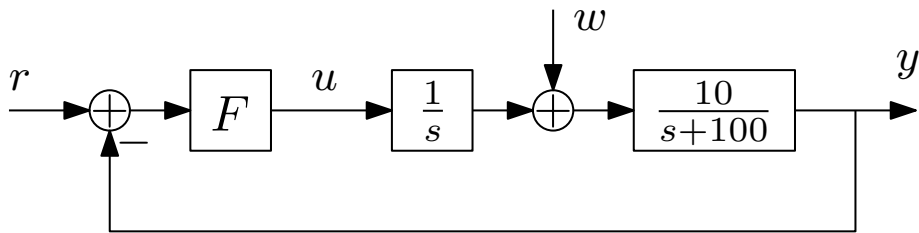

Figure 2: System with internal disturbance w and feedback controller $F(s)$
a) Consider a system with an internal disturbance denoted $w(t)$ as shown in Figure 2. We use feedback control with $F(s) = K$ that ensures the closed-loop stable is system. Suppose the reference is $r(t) \equiv 0$ and that the disturbance is a step